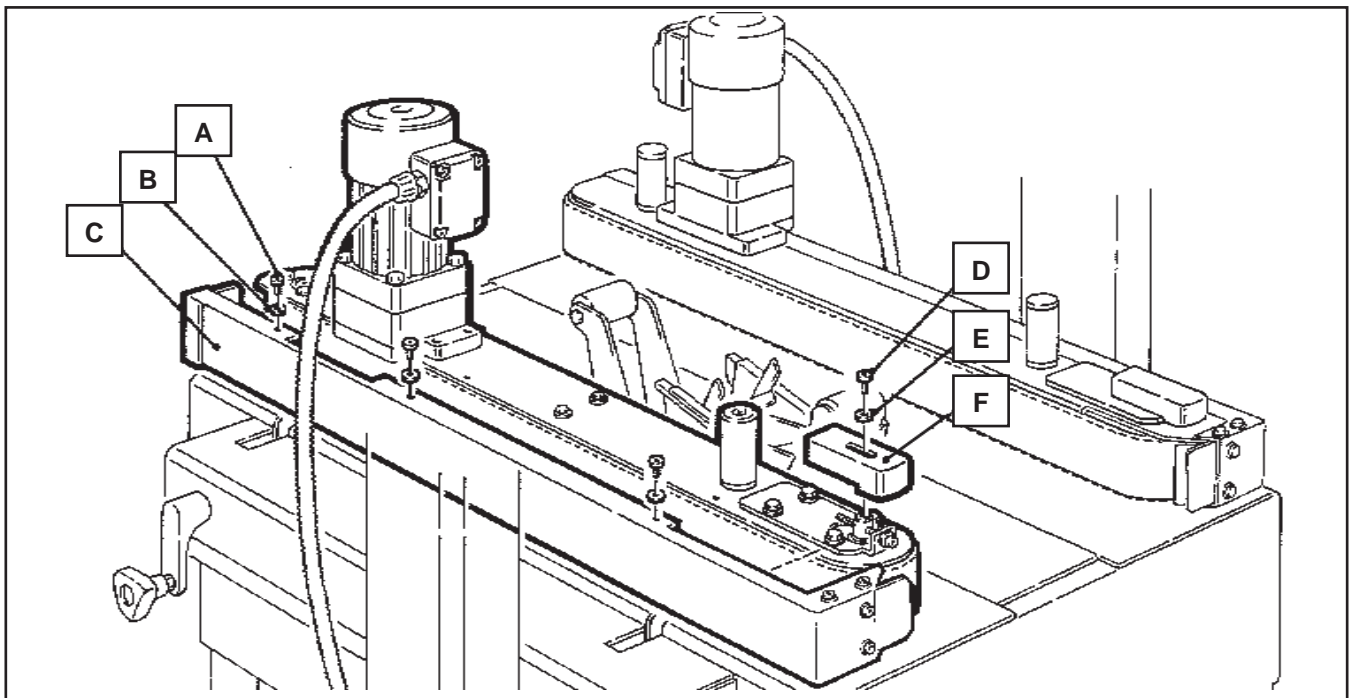
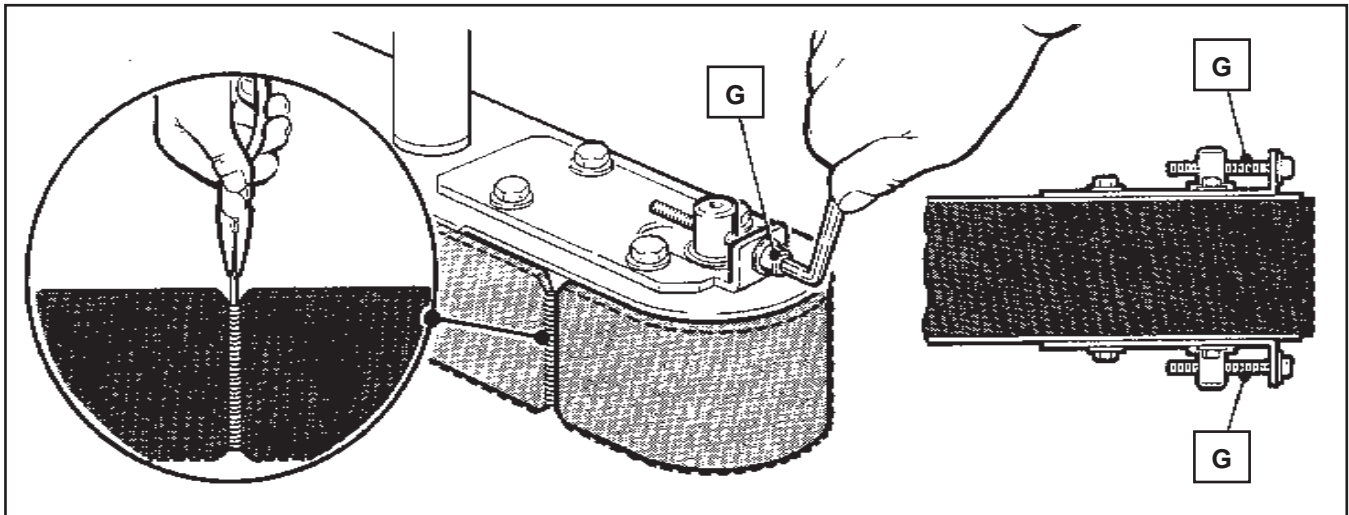

Figure 13-4 Box Drive Belt (Left Side View – Infeed End)
Figure 13-5 Box Drive Assembly, Infeed End
2. Remove and retain the three (3) screws (A), three (3) washers (B) and side cover (C). **See Figure 13-4.**
3. Remove and retain the screw (D), washer (E) and belt tensioner cover (F).
4. Turn belt adjustment screws (G) counterclockwise on both the upper and lower tension assemblies until belt is loose. **See Figure 13-5.**
7. To set drive belt tension, turn adjustment screws (G) equally on both the upper and lower tension assemblies. Turn the screws clockwise to increase tension or counterclockwise to decrease tension. **See Figure 13-5.**
8. Reverse procedures in Steps 1-3 (**Figure 13-4**) to reassemble the drive belt assembly.